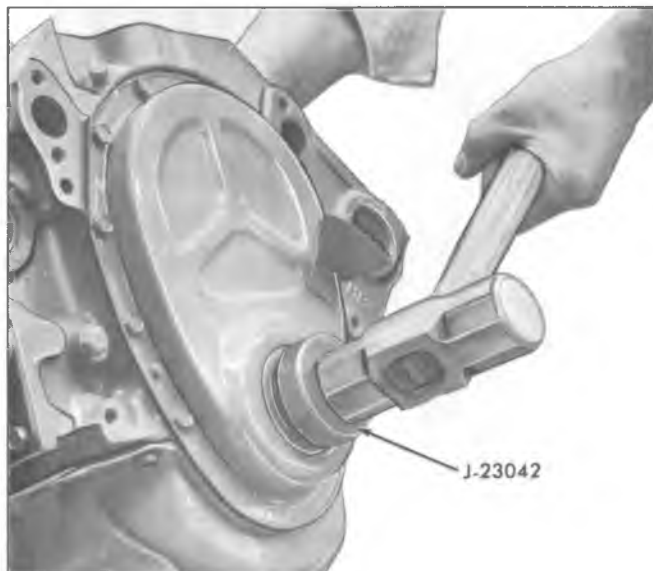

Fig. 14L—Installing Oil Seal (Cover Installed) (Typical)
2. Install new seal so that open end of seal is toward the inside of cover and drive it into position with Tool J-23042 (fig. 14L).